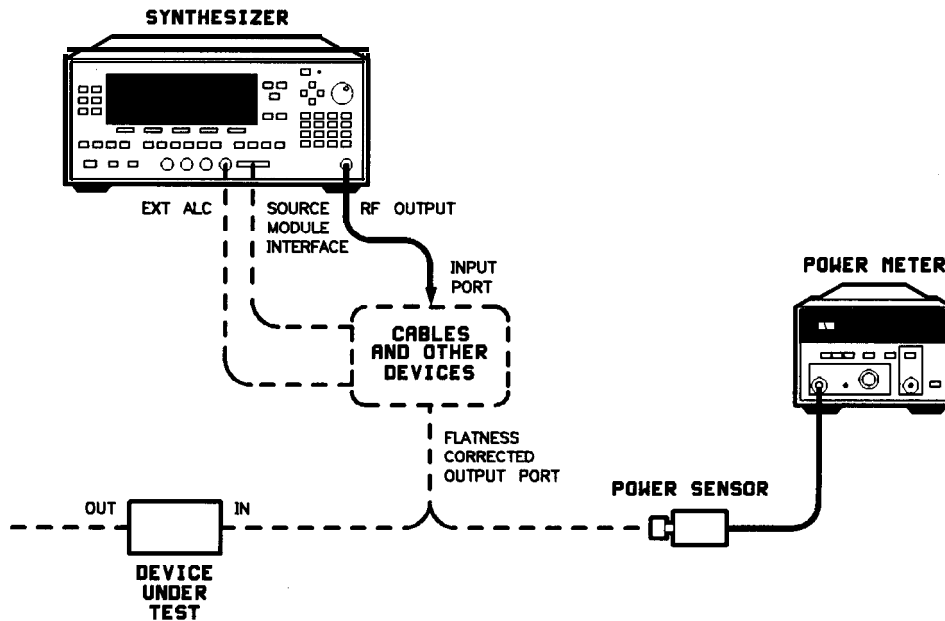

Figure 1-19. Creating a User Flatness Array
There are two basic front-panel methods of creating a flatness correction array. The first and quickest method is to use an HP 437B power meter. Refer to Figure 1-18 for the setup. The second method is just as accurate, but requires a little more interaction between the operator and the instruments. Figure 1-19 shows the setup for the second method.
1. The equipment setup shown in Figure 1-19 assumes that if your setup has an external leveling configuration, the steps necessary to correctly level have been followed. If you have questions about external leveling refer to earlier paragraphs titled, “Externally Leveling the Synthesizer .”